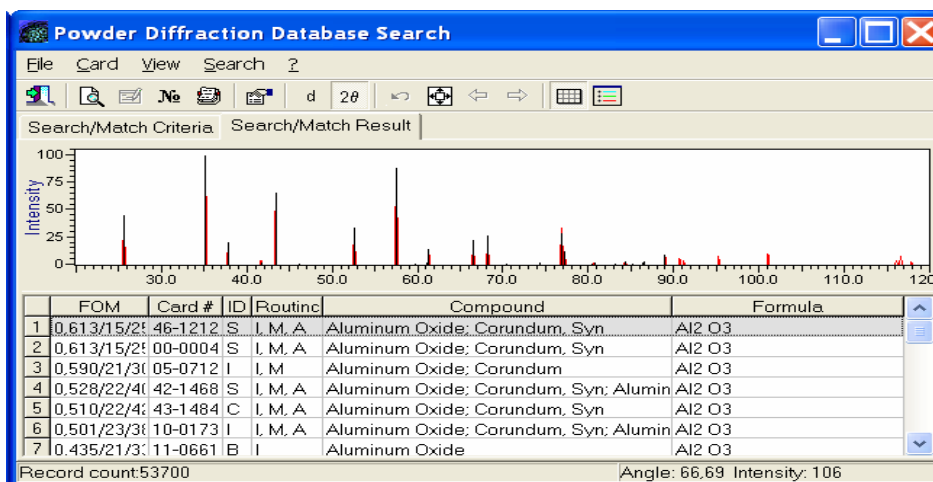

Figure 9: Look PDF Main Window -- Search/Match Result Page
- In Fig. 9 the Search/Match results page is shown, which contains the list of matches in the lower pane and a graphical window in the upper pane. It displays both the experimental pattern from a peak file and the standard pattern of the lines from the database card selected within the result lists. The result shows the reference sample match with aluminum oxide.